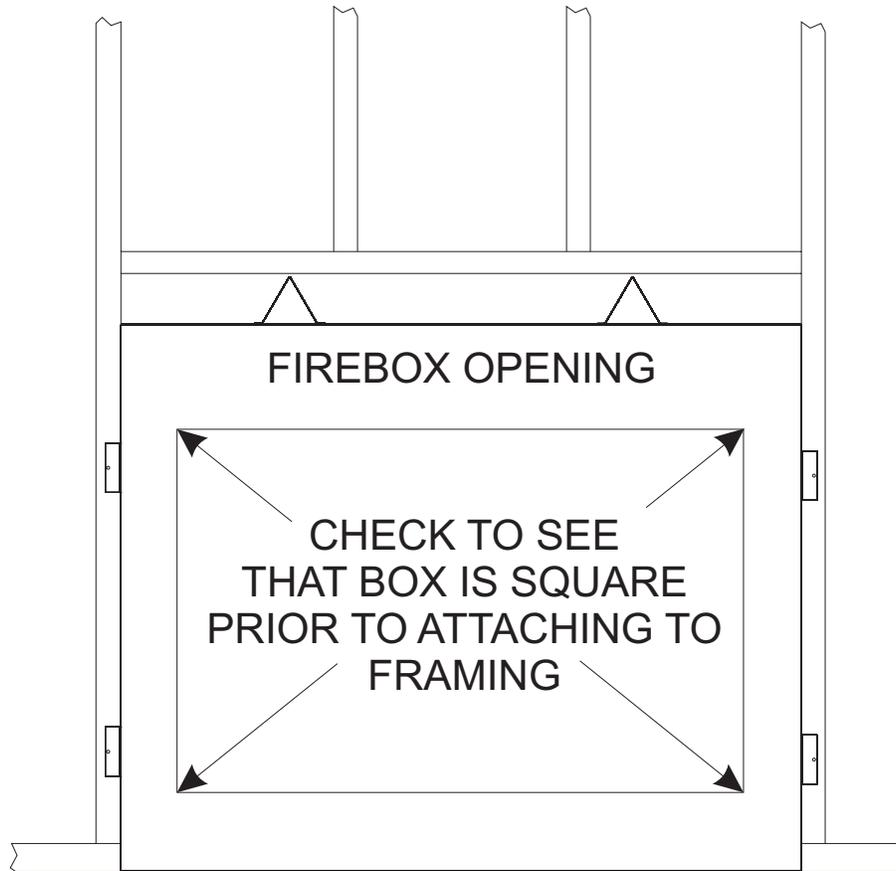

Figure 10
**IMPORTANT!** Check squareness of the firebox prior to securing to framed opening. See Figure 10.